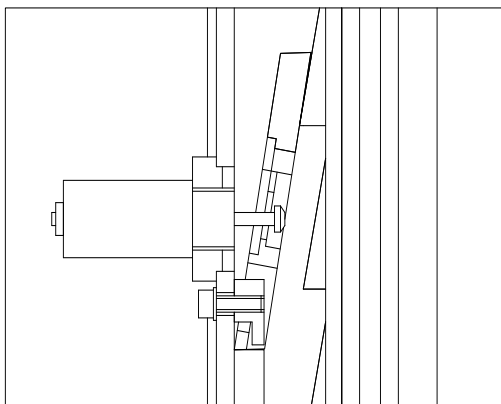

Fig.34
2. Install the safety devices including electromagnet, automatic locking board and hook board inner both columns. (refer to Fig.34) The first step should install the safety devices under both columns.